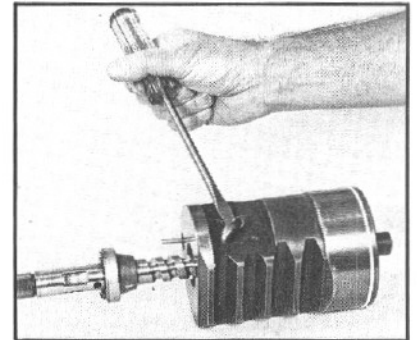
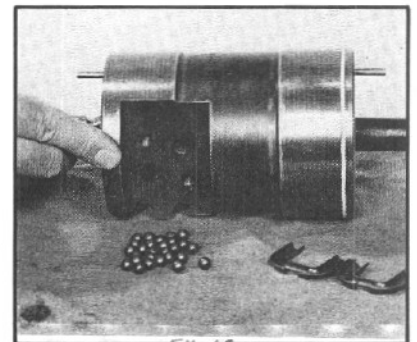

Figure 67
Figure 68
33. Remove the halves of the ball return guide (43) (FIG. 67). Next, remove the 27 steel balls (42) from the rack piston (31) by rotating the worm shaft/input shaft (17) until the balls fall out (FIG. 68).